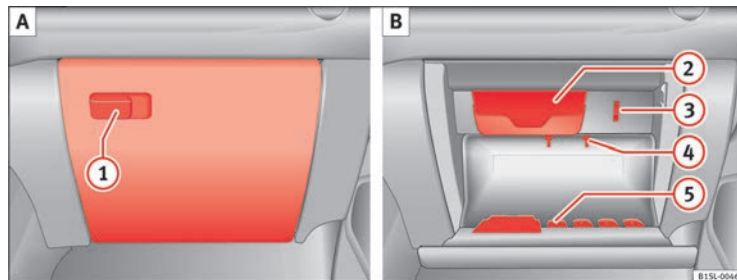

Fig. 73 Storage compartment with cover on the passenger side
Pull the lever to *open* ⇒ Fig. 73 ①.